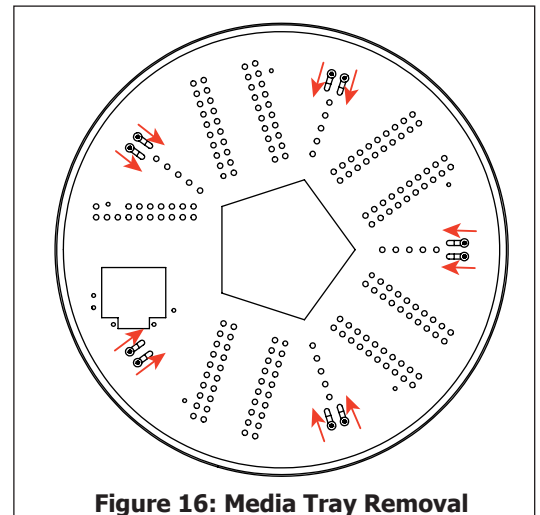

Figure 16: Media Tray Removal
- 7 Lose two (2) T20 screws on each of the secure bracket (see figure 16), then slide them inwards. Lift media tray and put away.